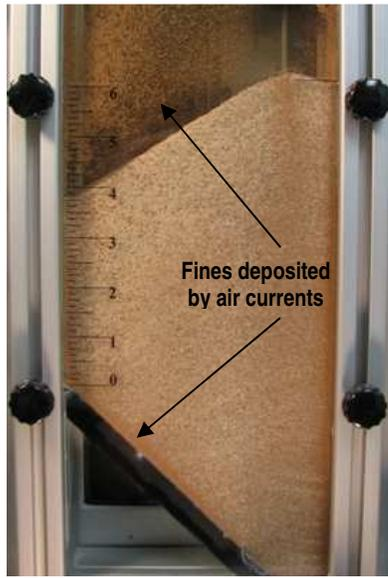

Figure 2. Four ingredient cream-of-wheat with cinnamon-sugar in a pile - example of air entrainment segregation
**Air Entrainment Segregation.** Air currents caused during filling may carry fine material to regions where the air currents decrease sufficiently to deposit the fine material. This air entrainment segregation can produce a radial pattern or a side to side pattern depending on the position of the inlet and the geometry of the vessel. Generally, fines accumulate near process vessel walls with this segregation (Figure 2).